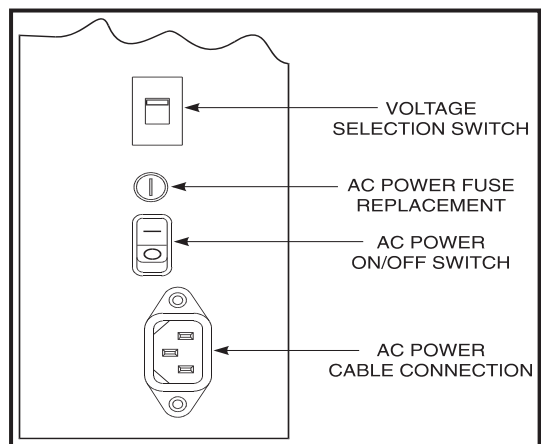

Figure 2.1 AC Power Area
The S-Series Printer's AC voltage may be set for either 115 VAC or 230 VAC operation. To match the printer's power entry selection to the available power source, refer to Figure 2.1 and follow the procedure outlined below:
2. Using a small flatblade screwdriver or similar tool, move the Voltage Selection switch to the 115 V or 230 V position as required. (The initial position of the switch depends on how the printer was ordered.) Make sure that the appropriate fuse is in place. See Figure 2.1.
A user-replaceable AC Power Fuse is located just above the Power ON/OFF Switch (see Figure 2.1). For a 115 VAC installation, the replacement fuse is a 3AG Fast Blow style rated at 5 Amp/250VAC. For a 230 VAC installation, the fuse is the same style but rated at 3 Amp/250 VAC. ***Make sure the fuse you use is correct for the voltage source.***